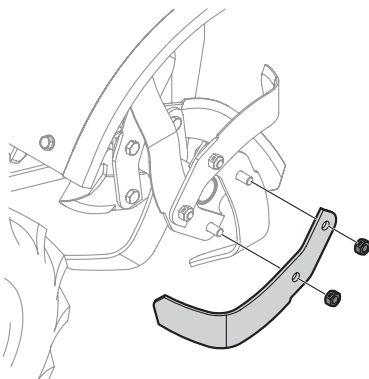

Figure 24
1. Remove the two nuts that attach a single tine to the screws on the tine assembly. If needed, use penetrating oil to help free the nuts. See Figure 24.